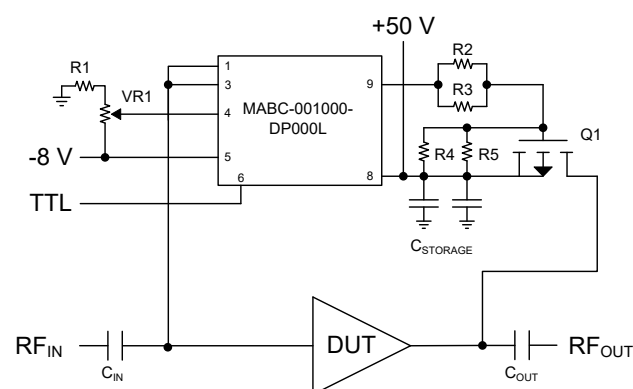

Figure 1. Fixed Gate/Pulsed Drain Biasing
- A voltage follower op-amp circuit provides a low impedance output to Pin 3 (GCO) Gate Voltage (-) Control Output. Pin 3 (GCO) output is applied to the gate terminal of a DUT as shown in Figure 1 on page 5.
- The reference voltage for the voltage follower is provided by the Pin 4 (GCI) Gate Voltage (-) Analog Input. This input reference voltage is developed by an external potentiometer/ resistive divider circuit as shown in Figure 1 on page 6. It is recommended to use the -8 V to -3 V voltage that is also applied to Pin 5 (VGS).
- An N-Channel MOSFET develops the pulsed signal (SWG) to drive the resistive divider network for the gate of an external p-Channel HEXFET as shown in Figure 1 on page 5. The input signal for the internal MOSFET is provided by the output from the sequencing circuits.
Figure 1 shows a block diagram of the MABC-001000-DP000L module with the recommended external components to support this application option. See Table 1 for component recommendations and values.